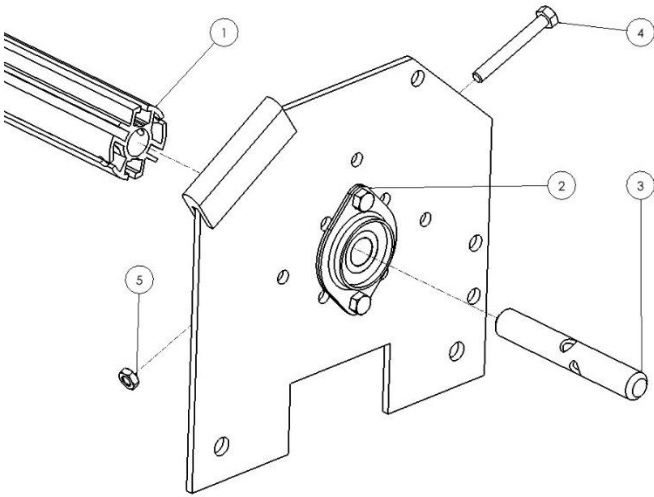

Figure D.6
Line the heavy duty tarp axle (1) up with the axle bearing (2) on the passenger side. Slide the spool shaft (3) through the axle bearing and into the heavy duty tarp axle. Line up the holes on the tarp axle and spool shaft and secure them using a 5/16" x 2-1/2" bolt (4) and 5/16" nut (5). Tighten the set screw in the axle bearing sleeve. (Figure D.6)